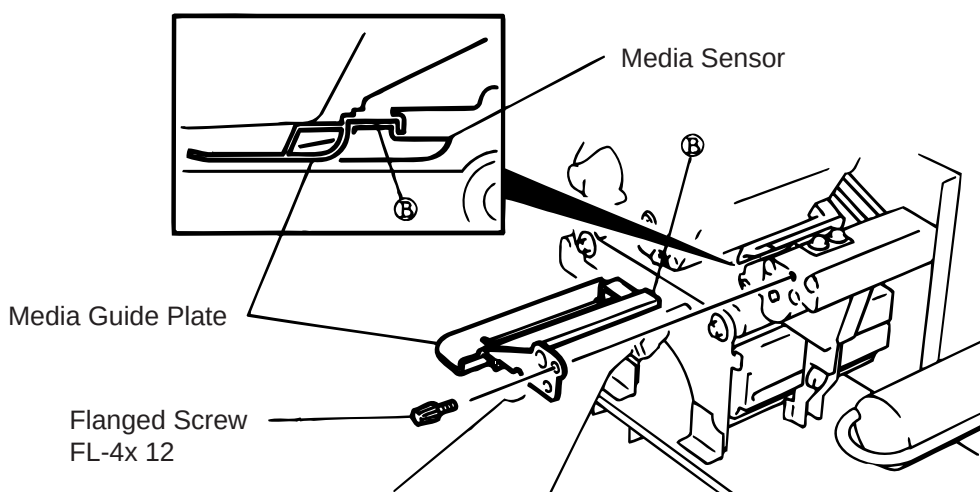

Fig. 9-2
3. Turn the head lever to position ③, then release the ribbon shaft holder plate.
4. Remove the flanged screw to detach the media guide plate. (See Fig. 9-2.)
8. Place the portion ⑥ of the media guide plate on the media sensor. Secure the media guide plate with the flanged screw.